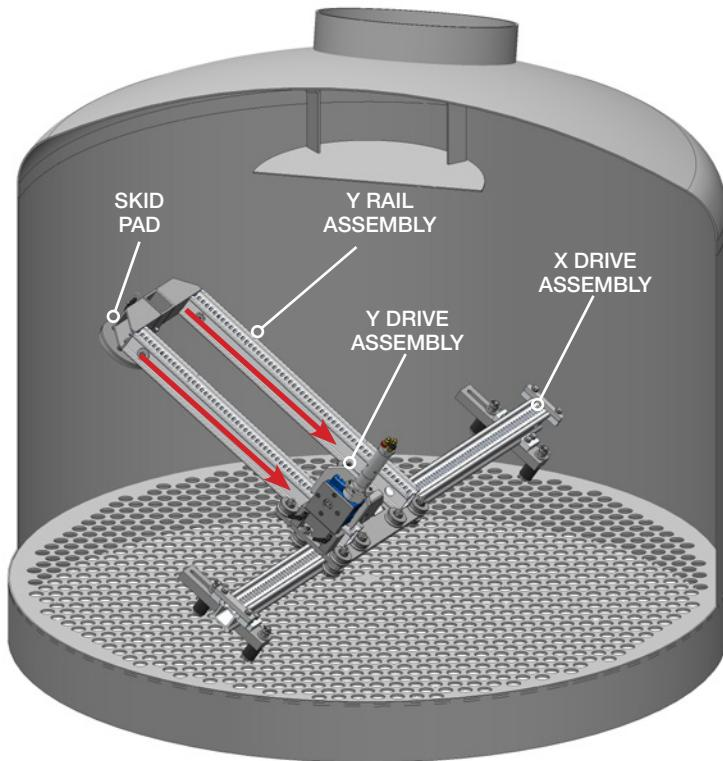

FIGURE 38
7. To make enough room to install the Y Rail Assembly, set the X Rail Assembly on its side or at an angle. Remember to insert the Y Rail Assembly with the Skid Pad on the same side as the Carriage Handle. (**Figures 38**)